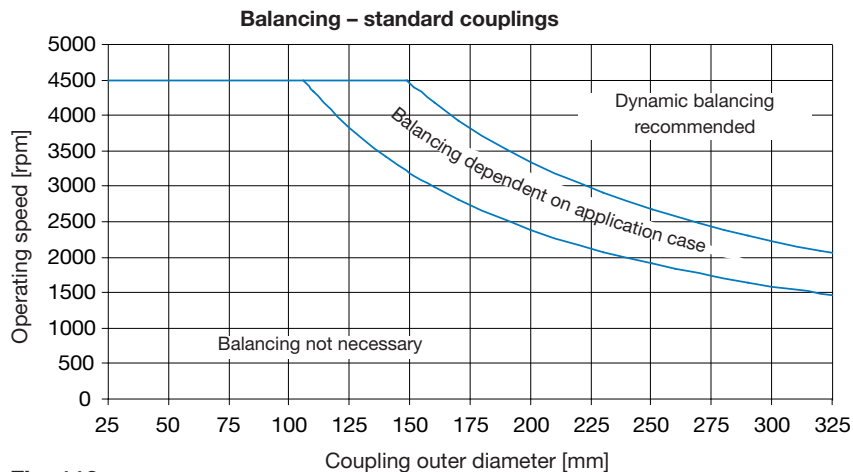

Fig. 112
- coupling circumferential speed (Fig. 112)
- Figs. 112 or 113 only show reference values as recommendations for balancing.